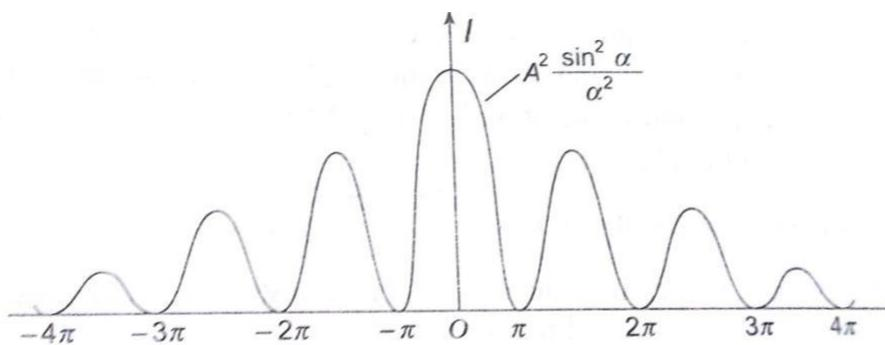

Fig 1.15 The intensity of diffraction pattern due to single slit
A graph is plotted between intensity of light (I) and α is shown in Fig 1.15.
- The most of the light is concentrated in the principle maximum & the intensity of secondary maximum decreasing on either sides of principle maximum as shown in Fig 1.15.